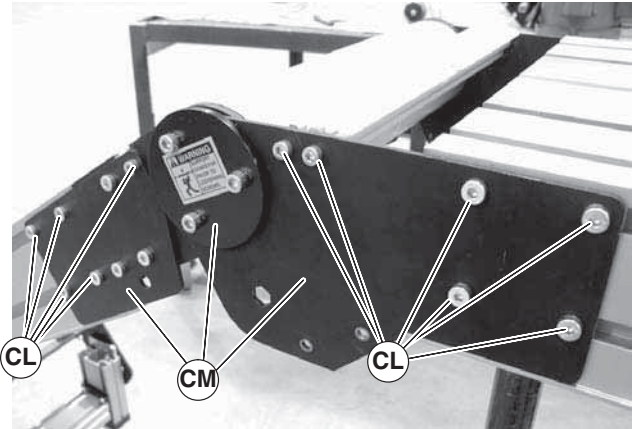

Figure 72
3. On one side of knuckle, remove screws (Figure 72, item CL) and knuckle plate assembly (CM).